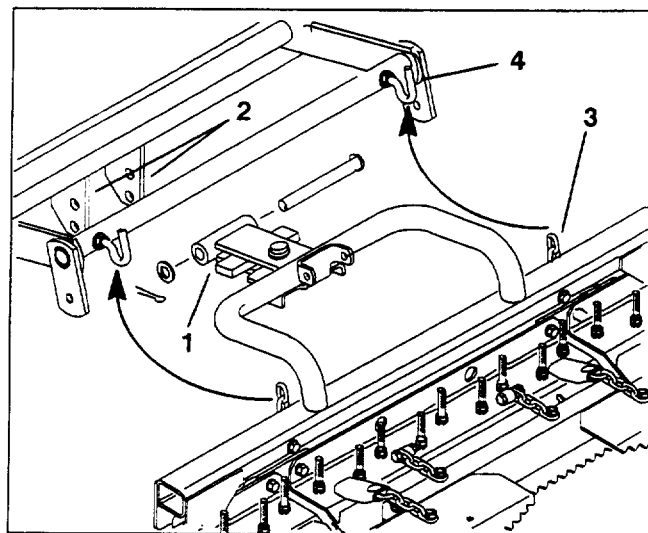

**Figure 4**
1. Slide lift pivot onto rake assembly plate, aligning mounting holes as shown in figure 4. Secure pivot to plate with a shoulder bolt, (2) flat washers and a lock nut. Position a washer on each side of pivot.